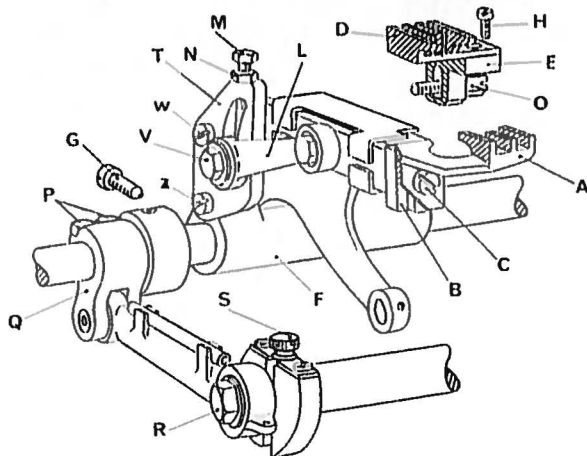

fig. 8
6. Setting the feed dogs (fig 8)
Centring the feed dogs (fig. 8) :
Setting the differential (fig. 8) :
- To adjust the stitch length nut R (fig. 8) should be loosened and screw S of the stitch lengthener rotated - clockwise to shorten the stitch and anticlockwise to lengthen it
e) Variation of stitch length (fig. 8) :